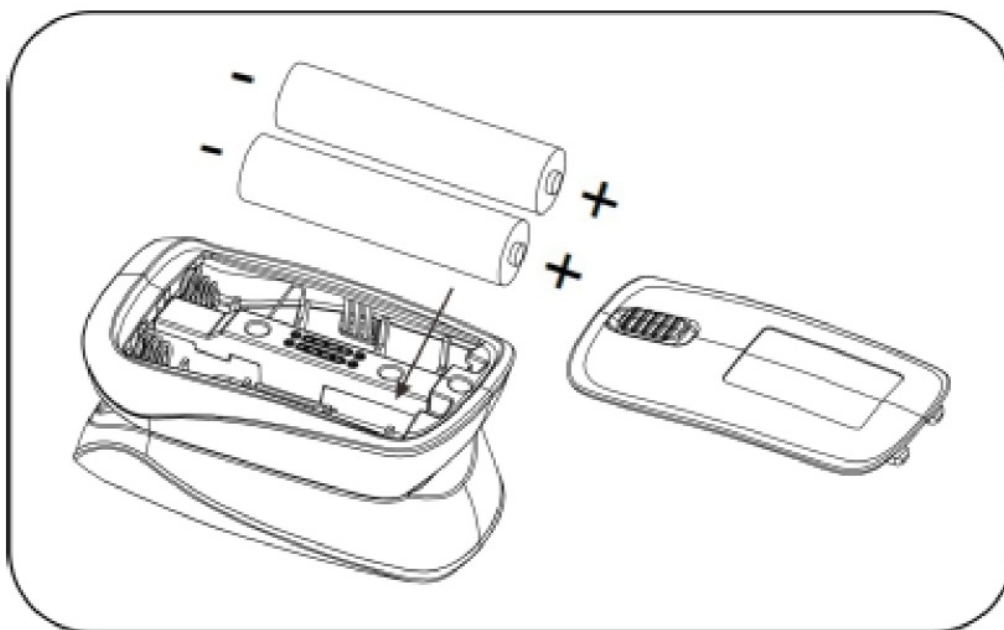

Figure 3. Batteries Installation
Step 1. Refer to Figure 3. and insert the two AAA size batteries properly in the right direction.